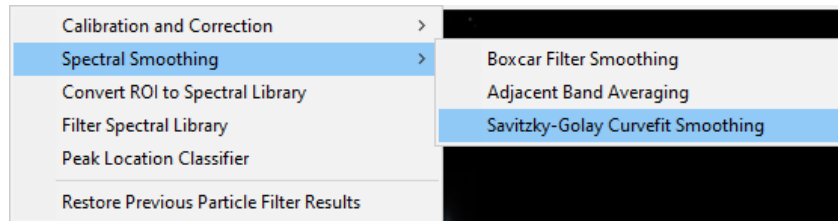

Figure 11j. CytoViva Analysis Tab
- In the main menu bar, click File, Open Image File, then select: AgNP-100X-pixelfly. In the tool bar, click the CytoViva Analysis tab, click Spectral Smoothing, and then select the Savitsky-Golay Curvefit Smoothing (Figure 11j).